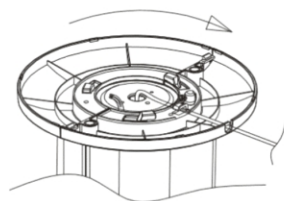

Fig 3
- Then rotate the base clockwise until it is locked. Finally thread the power cord into the guide on the bottom of the base by gently pressing the wire into the clamps. See Figure 3